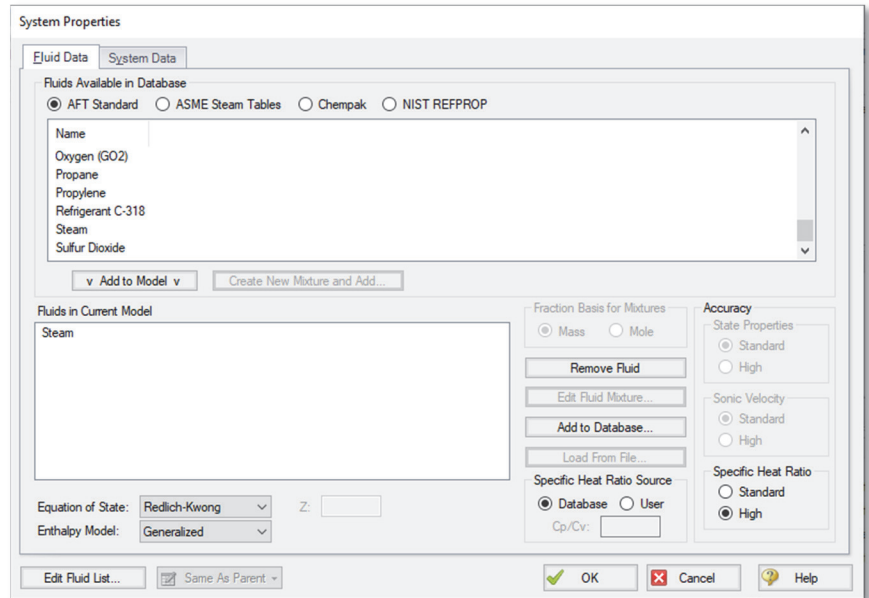

Figure 2.7 The System Properties window lets you select gases for the model and create mixtures
- **Select System Properties from the Analysis menu** to open the System Properties window (see Figure 2.7). For this example, use the AFT Standard Database and select “Steam” in the upper list, then click the “Add to Model” button. Leave the equation of state model as “Redlich-Kwong” and the enthalpy model as “Generalized”.